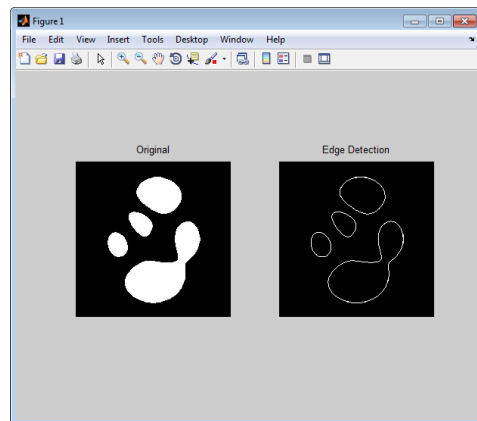

Figure 35: Edge Detection result on test image
4. **[Run]** the model in “Normal” Simulation mode. While the simulation is running, double click the **Threshold** block. Find an appropriate value that provides accurate edge detection on the test image (**Figure 35**).